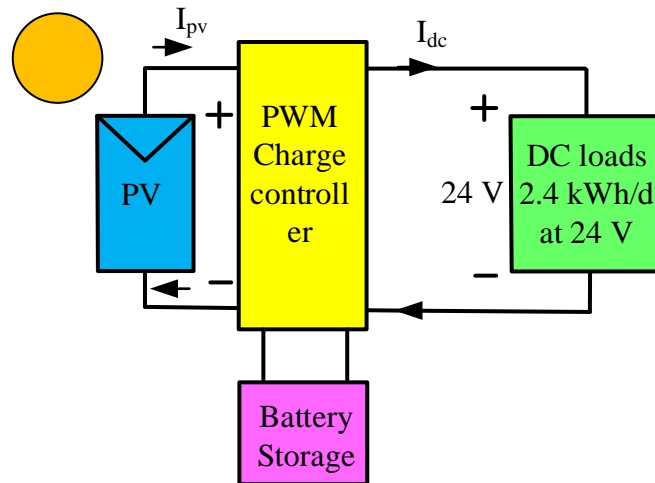

Fig. 2: Block diagram of the DC standalone system
- (4) You have to design a 24 V DC standalone PV system with a PWM charge controller to meet a 2.4 kWh/d demand for a small, isolated cabin (block diagram is provided in Fig. 2). You want to size the PV array to meet the load demand of the cabin with average insolation equal to  $5 \text{ kWh/m}^2/\text{d}$ . Your chosen PV modules have their 1 sun MPP at  $V_r = 18 \text{ V}$  and  $I_r = 5 \text{ A}$ . Assume a 0.80 derate factor for dirt, wiring, module mismatch (i.e. 20% loss). You have to use 200 Ah, 12 V batteries with 100% Coulomb efficiency.